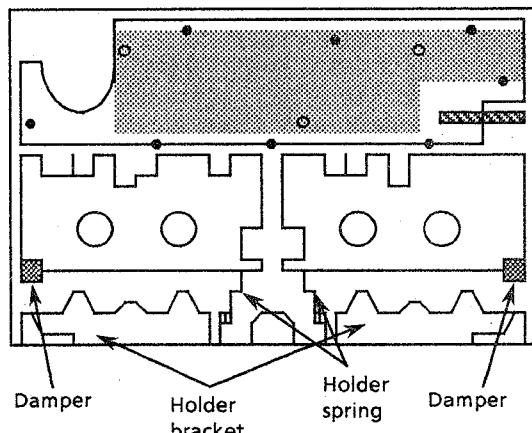

Fig. 7 After removing the mechanism assembly
2. Remove the dampers (Fig. 7).
3. Remove the holder spring from the holder bracket (Fig. 7).